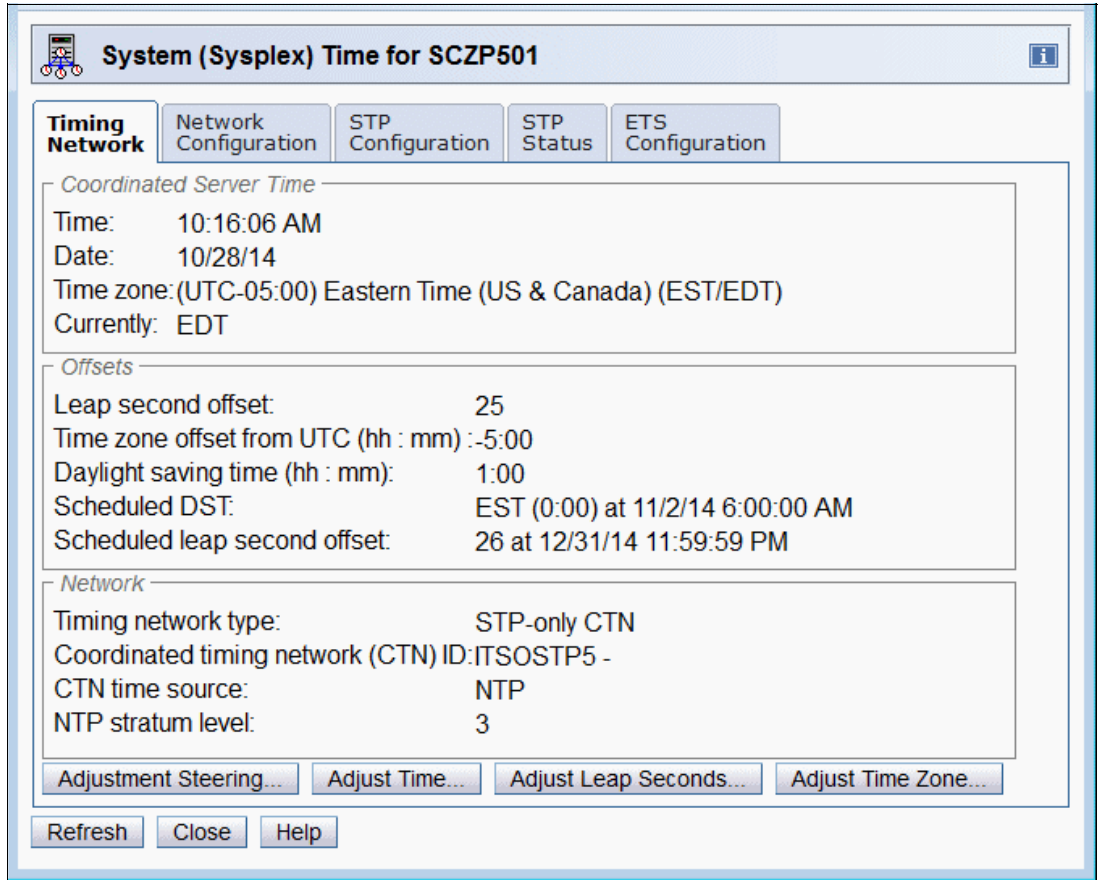

Figure 11-27 Timing Network window showing Scheduled DST and Scheduled leap second offset
- The Timing Network window now includes the next scheduled Daylight Saving Time change and the next leap second adjustment, as shown in Figure 11-27. The schedules that are shown are the ones for the next Daylight Savings Time change (either given per automatic or scheduled adjustment) and for the next Leap Second change (given per scheduled adjustment).
**Attention:** Figure 11-27 shows a Schedule leap second offset change to 26 seconds that is scheduled for 12/31/2014. This is *not* a real leap second that is released by the International Earth Rotation and Reference System Services. It was temporarily set *only* to show the panel appearance.